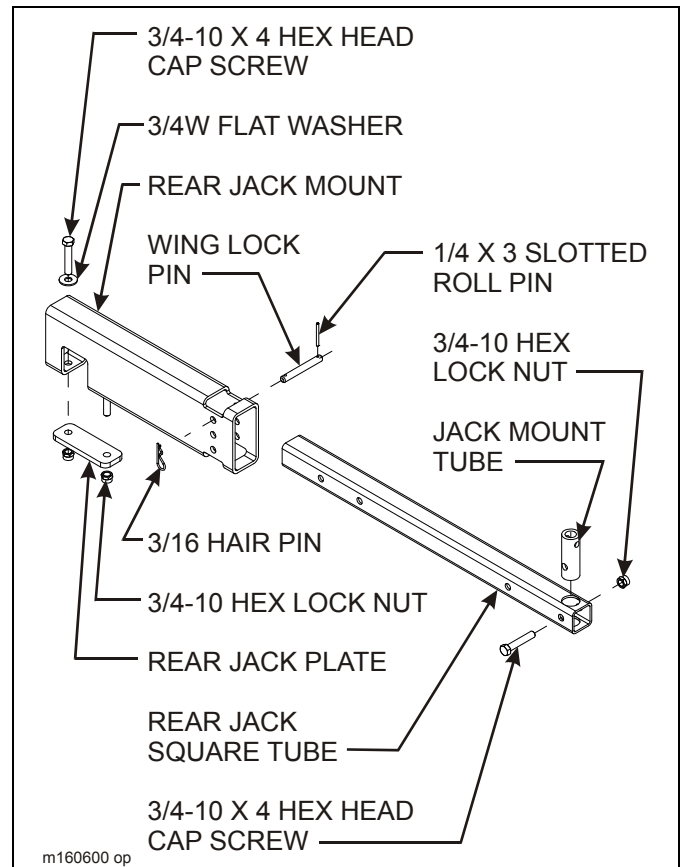

Figure 3-27: Rear Jack Installation
1. Attach rear jack mount and rear jack plate to the rear frame of the Ripoll using 3/4-10 x 4 hex head cap screws and hex lock nuts (See Figure 3-27.)